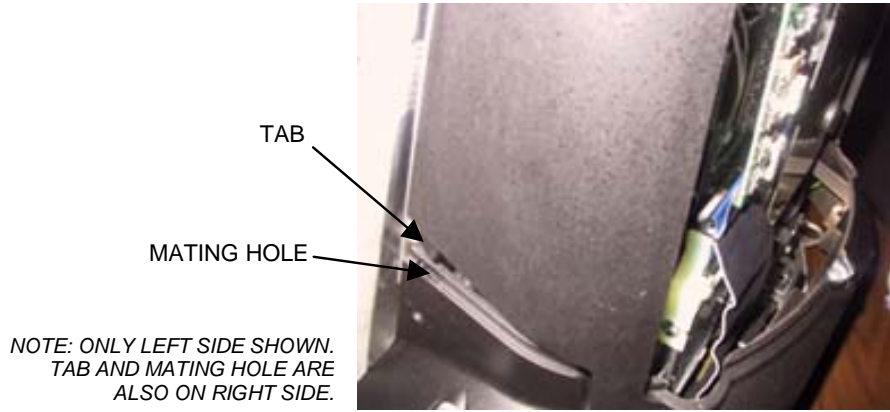

FIGURE 8 - SIDE VIEW OF GAME
5. Reconnect the ground wire to the rear cover and lower the cover into place, carefully lining up the 2 tabs on the cover with the 2 mating holes on the sides of the game (see Figure 8). Make sure the plastic lip on the bottom of the rear cover is behind the metal base. Tighten the screw securing the bottom of the door. See Figure 2. Turn the wing on the draw latch clockwise to engage the latch (see Figure 1).